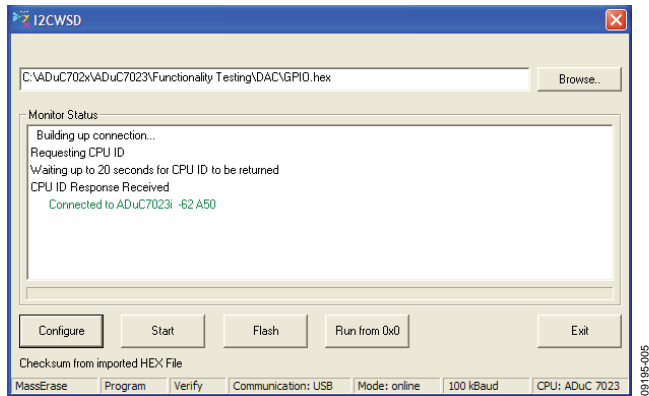

Figure 5. I2CWS D Application Showing a Valid ADuC7023 ID String Response
- Click **Start** in the I2CWS D dialog box to connect the I2CWS D download software with the ADuC7023 bootloader (see Figure 5).